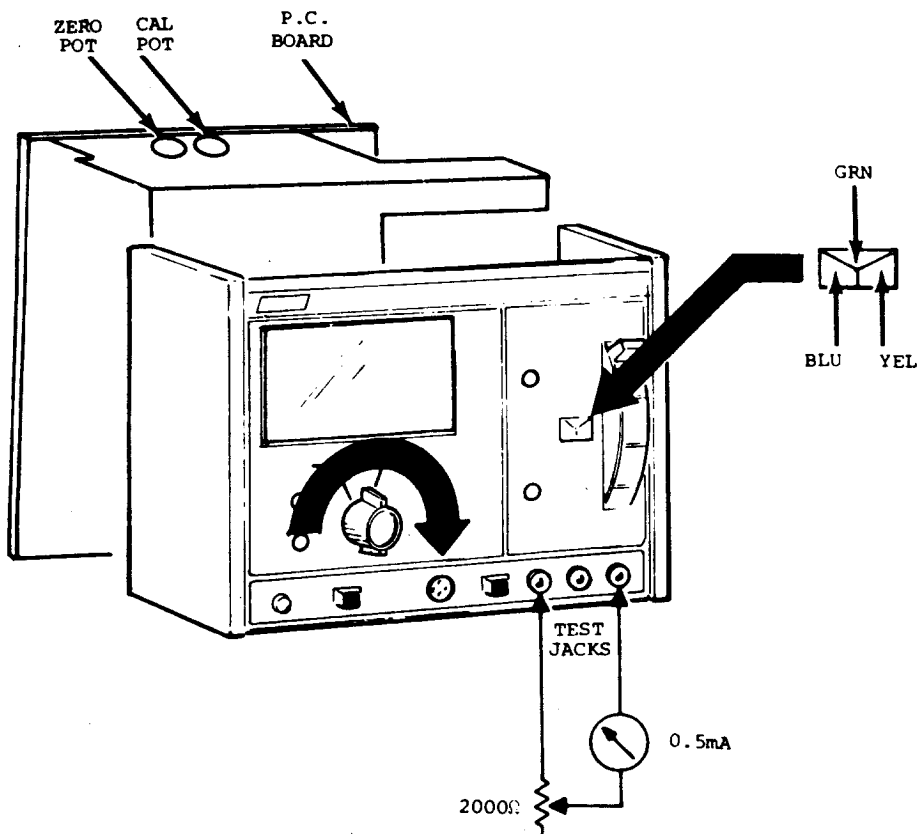

Fig. 4. Location of calibrating controls.
- b. Remove the back of the instrument by removing the five screws at the bottom and rear of the case. Locate TP1 near the top center of the P.C. board. Connect TP1 to the metal chassis with a jumper. Turn on the 520B. If the meter is not indicating zero, adjust the ZERO control with a screwdriver through the left side hole in the top of the chassis until the meter balances. The zero control is identified on the P.C. board just below the adjustment hole (see Fig. 4). Remove the jumper.
- c. To calibrate the meter, put the TEST switch in the uppermost (green) position. Connect a 2000 Ω potentiometer and a 0-5mA meter in series from the yellow jack to the blue jack as in Fig. 4. Then while holding the FUNCTION switch in the LEAKAGE position, adjust the potentiometer for 5 milliamperes in the external meter. If the meter on the 520B panel does not read full scale, adjust the "CAL" control through the right side hole in the top of the chassis. The CAL pot is identified on the P.C. board just below the adjustment hole. See Fig. 4.